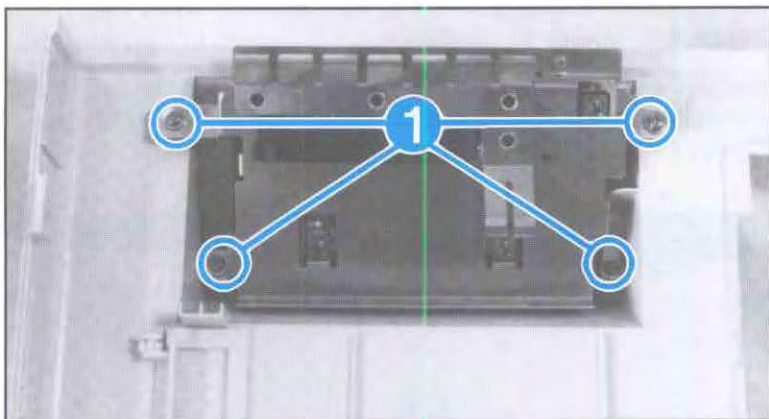

Figure 6-8. Control Panel
2. Remove the (4) screws securing the Control Panel and remove the Control Panel from the Front Cover (see Figure 6-8, callout 1).